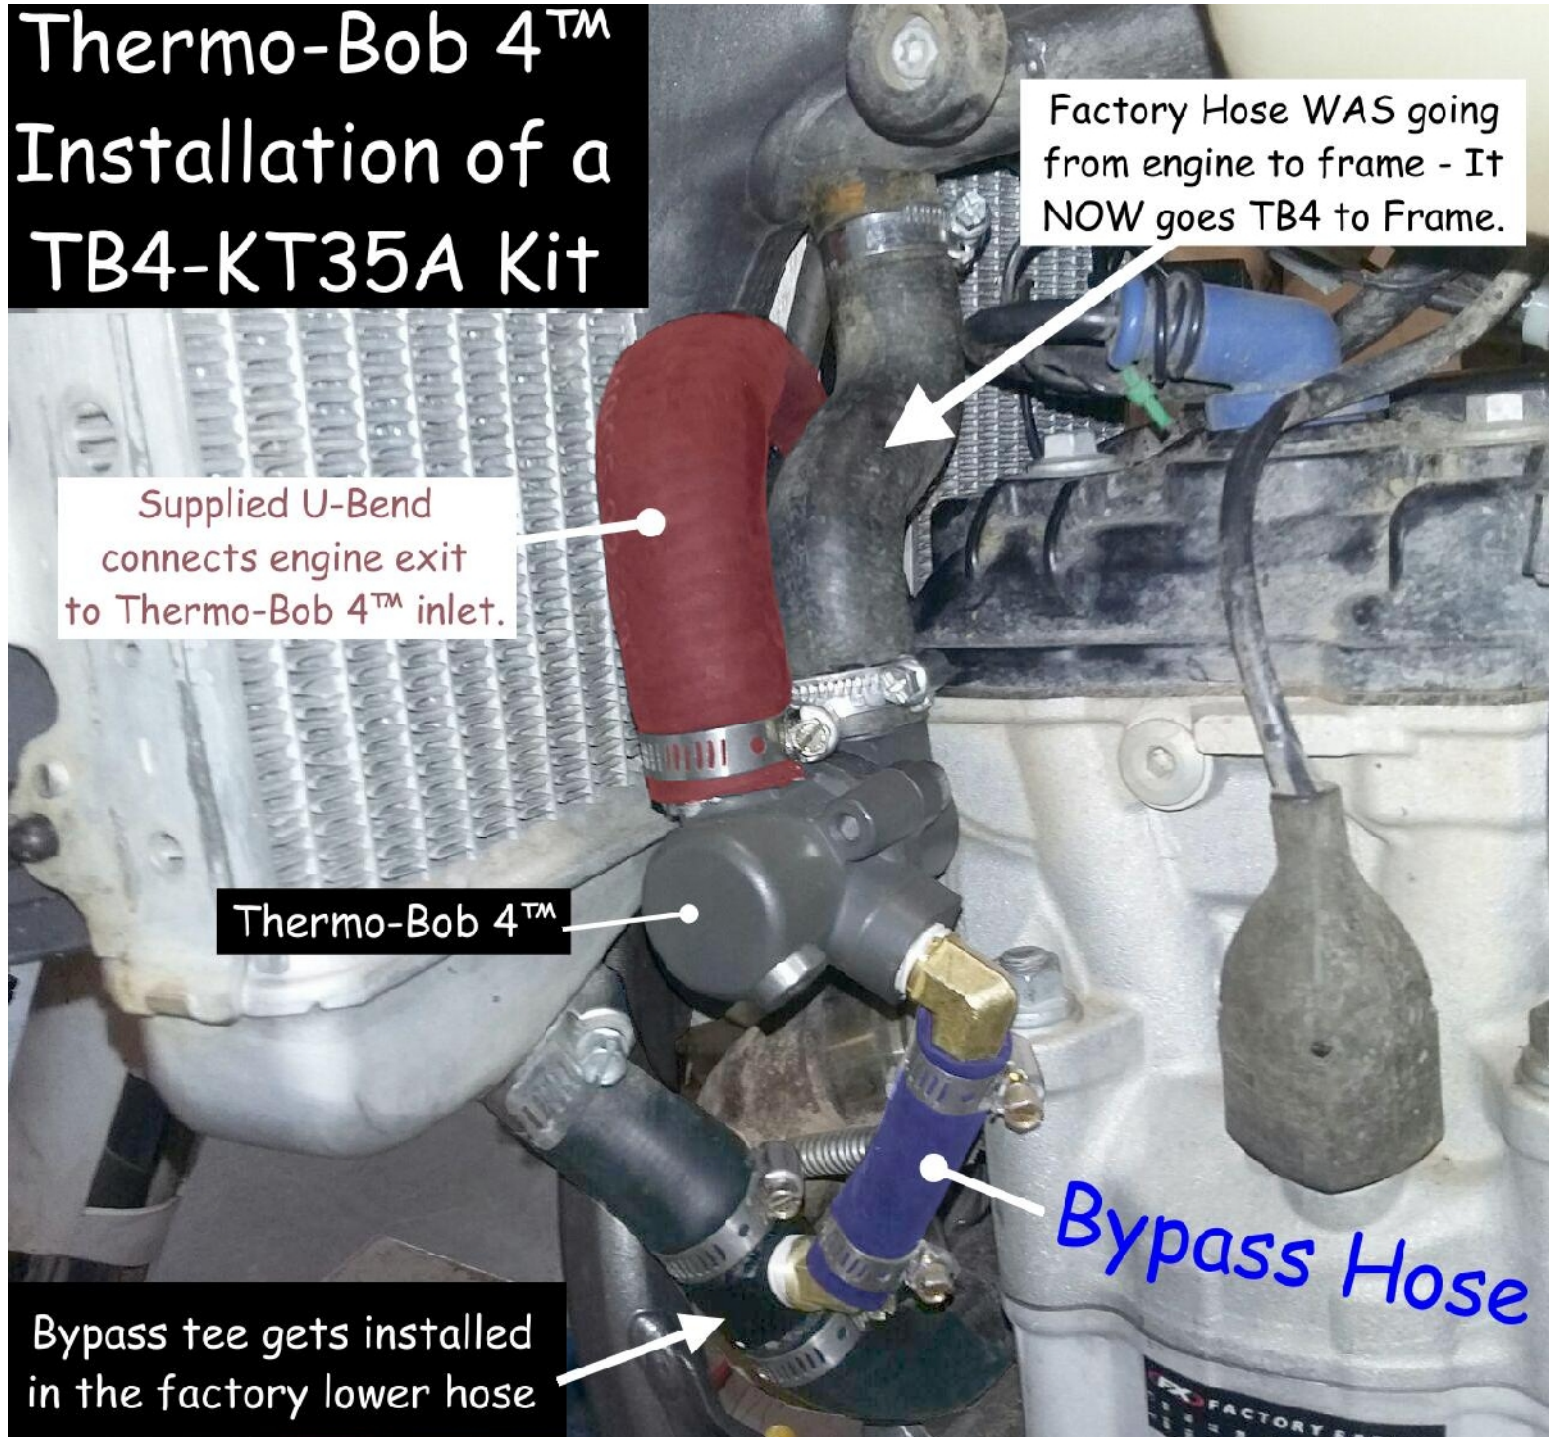

Figure 1.
**Figure 1 on the next page shows a completed installation. Details are described below:**
- 1) Remove the factory 'S-shaped' radiator hose that connects the engine exit to the barb under the top frame tube: Reinstall the upper end of the hose back on the frame barb, but rotate the hose 90° CCW (from above, looking at the ground) so the open end of the factory hose can be connected to the Thermo-Bob 4 exit as shown in Figure 1. Re-use your two KTM hose clamps, one on each end of the S-hose, but don't tighten them yet.
- 2) Take the supplied U-Bend (colored as reddish-brown in Figure 1) and connect the engine exit to the Thermo-Bob inlet as shown. The "long end" of the U-bend goes on the Thermo-Bob. Install, but don't tighten two of the large supplied clamps, one on each end of the U-bend.
- 3) Remove a 5/8 inch (16 mm) long section of the factory lower hose that exits the bottom of the left radiator and insert the supplied bypass tee as shown in Figure 1. Use the other two supplied large clamps, again not tight yet.
- 4) Rotate the bypass tee in the lower hose to best aim the bypass tee's brass barb at the Thermo-Bob 4's brass barb. Cut the supplied bypass hose (colored blue in Figure 1) to length (usually around 2.5 inches, or 64 mm) and slide it onto each of the brass barbs as shown. **TIP: Slide the supplied small clamps onto the center of the bypass hose first, then dip both ends of the hose in coolant and wipe off the outside. This will lubricate the inside of the bypass hose ends, making it easier to slide on to the brass barbs.**